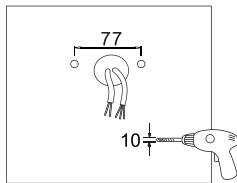

Figure 6
3.YOKE MOUNTING (YM)
Step 1: Drill holes on the wall as shown. (Figure 6)